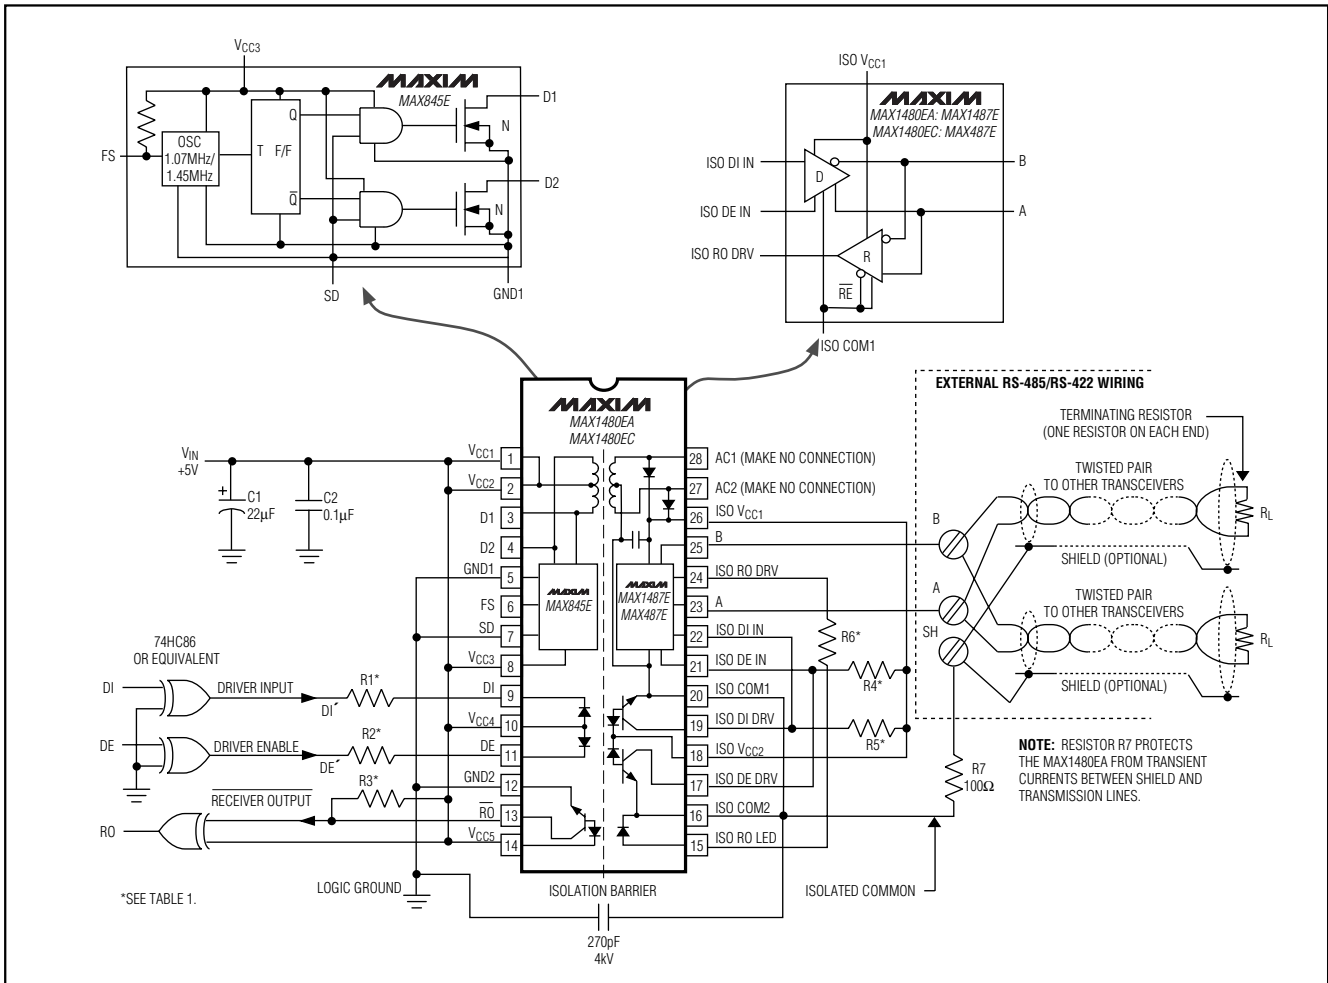
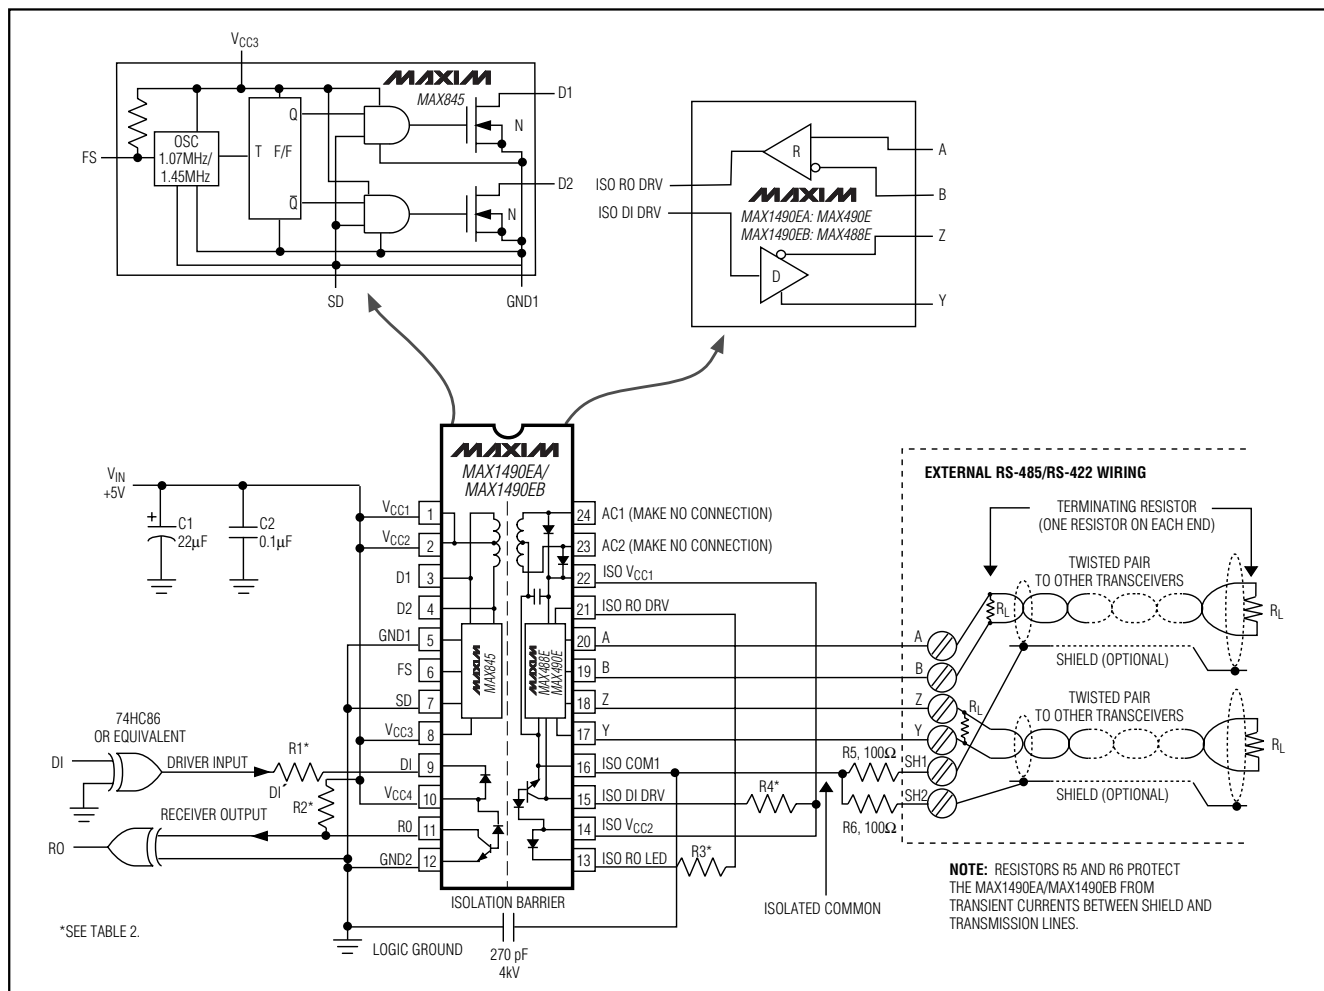

Figure 1. MAX1480EA/MAX1480EC Detailed Block Diagram and Application Circuit
Figure 2. MAX1490EA/MAX1490EB Detailed Block Diagram and Typical Application Circuit
Note 2: For DE⁺ and DI⁺ pin descriptions, see *Detailed Block Diagram and Typical Application Circuit* (Figure 1 for MAX1480EA/MAX1480EC, Figure 2 for MAX1490EA/MAX1490EB).
($V_{CC-} = +5V$, $V_{FS} = V_{CC-}$, Figures 1 and 2, $T_A = +25^\circ C$, unless otherwise noted.)
($V_{CC-} = +5\text{V}$, $V_{FS} = V_{CC-}$, Figures 1 and 2, $T_A = +25^\circ\text{C}$, unless otherwise noted.)
($V_{CC-} = +5V$, $V_{FS} = V_{CC-}$, $V_{DI} = 0$, DE toggled 0 to 5V at 5kHz, Figures 1 and 2, $T_A = +25^\circ C$, unless otherwise noted.)
Note: For DE⁺ and DI⁺ pin descriptions, see Detailed Block Diagram and Typical Application Circuit (Figure 1 for MAX1480EA/MAX1480EC, Figure 2 for MAX1490EA/MAX1490EB).
The MAX1480EA/MAX1480EC/MAX1490EA/MAX1490EB are complete, electrically isolated, RS-485/RS-422 data-communications interface solutions. Transceivers, optocouplers, a power driver, and a transformer in one standard 28-pin DIP package (24-pin package for the MAX1490EA/MAX1490EB) provide a complete interface. Signals and power are internally transported across the isolation barrier (Figures 1, 2). Power is transferred from the logic side (nonisolated side) to the isolated side of the barrier through a center-tapped transformer. Signals cross the barrier through high-speed optocouplers. A single +5V supply on the logic side powers both sides of the interface. The MAX1480EA/MAX1480EC offer half-duplex communications while the MAX1490EA/MAX1490EB feature full-duplex communication. The functional input/output relationships are shown in Tables 3 through 6.
Table 1. Pullup and LED Drive Resistors for Figure 1
Table 2. Pullup and LED Drive Resistors for Figure 2
* For DE[′] and DI[′] pin descriptions, see Detailed Block Diagram and Typical Application Circuit (Figure 1 for MAX1480EA/MAX1480EC, Figure 2 for MAX1490EA/MAX1490EB).
The ±15kV ESD test specifications apply only to the A, B, Y, and Z I/O pins. The test surge may be referenced to either the ISO COM or to the nonisolated GND (Figures 1 and 2).